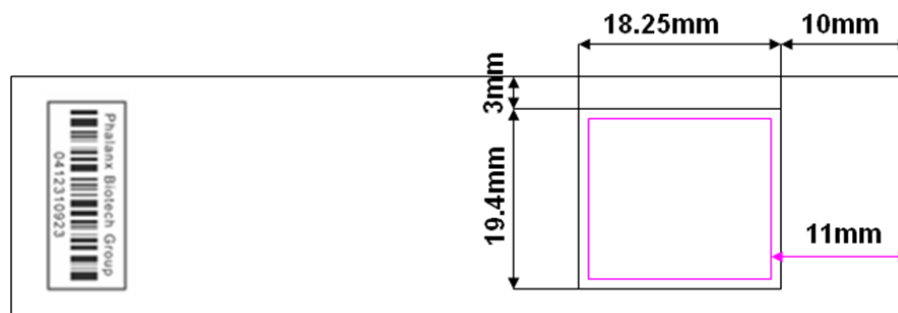

Figure 1: Human miRNA OneArray[®] Microarray Glass Slide with “Probe Printed Region Guide” Plastic Underlay. (One array per slide)
- 7) Place the Human miRNA OneArray[®] slide, bar code up, atop the “Probe Printed Region Guide” (included, see Figure 1).